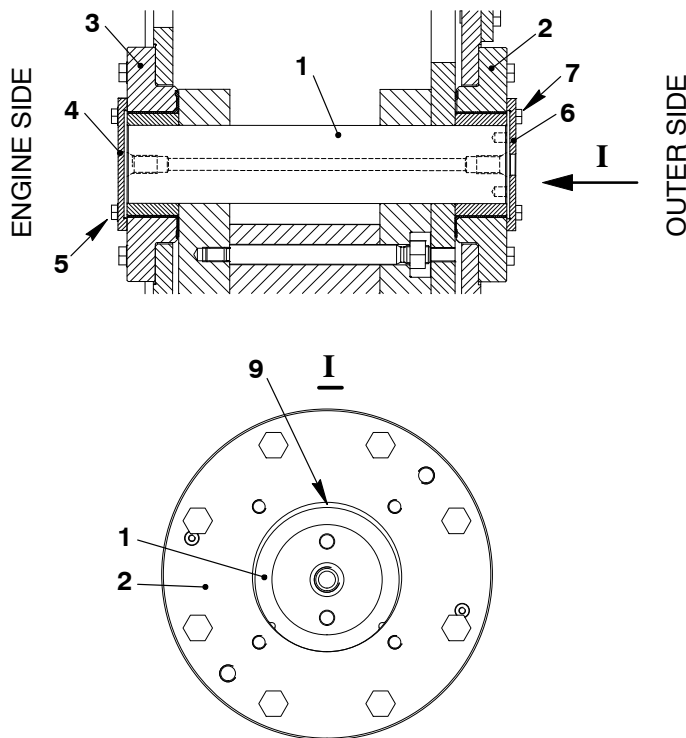

Fig. 11
- 1) On the engine side, remove the four screws (5, Fig. 11) and the locking plates from the bearing cover (4).
- 2) Remove the bearing cover (4).
- 3) On the outer side, remove the four screws (7) from the bearing cover (6).
- 4) Remove the bearing cover (6).
- 5) Use a feeler gauge to measure the clearance between the pin (1), the bearings (2, 3) at the top position (9).